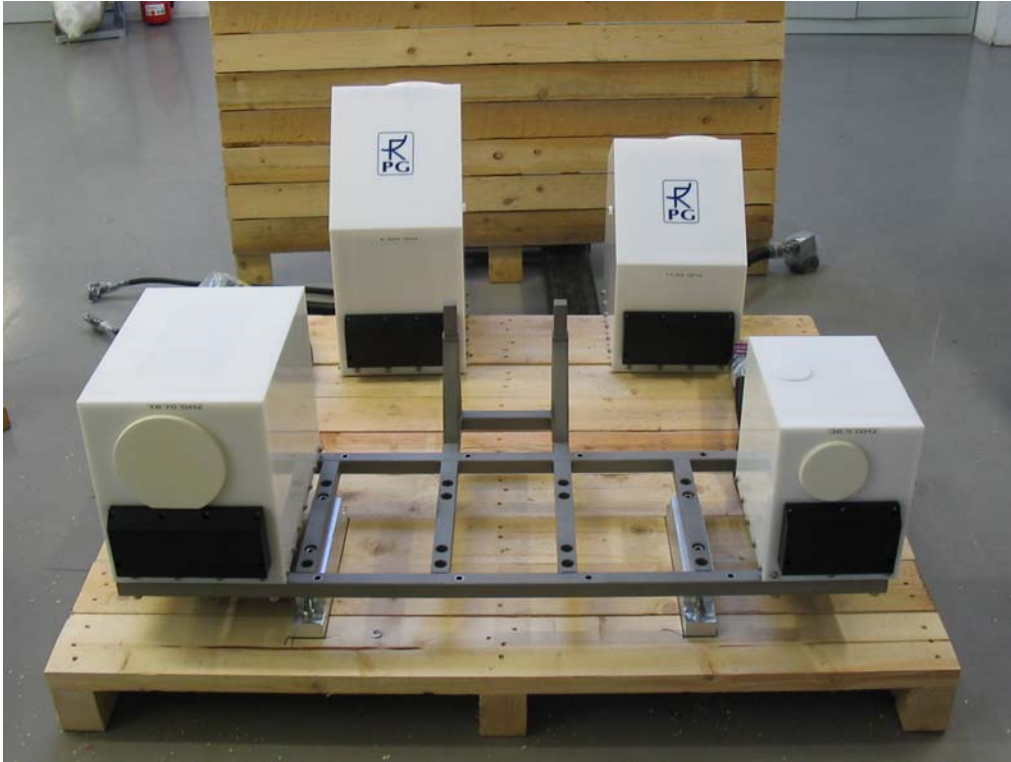

Fig.1.2: The low frequency modules (6.925 and 10.65 GHz) dismantled from the main frame.
Step 2: Dismount the 10.65 GHz and 6.926 GHz receiver modules (see Fig.1.2) from the main frame.